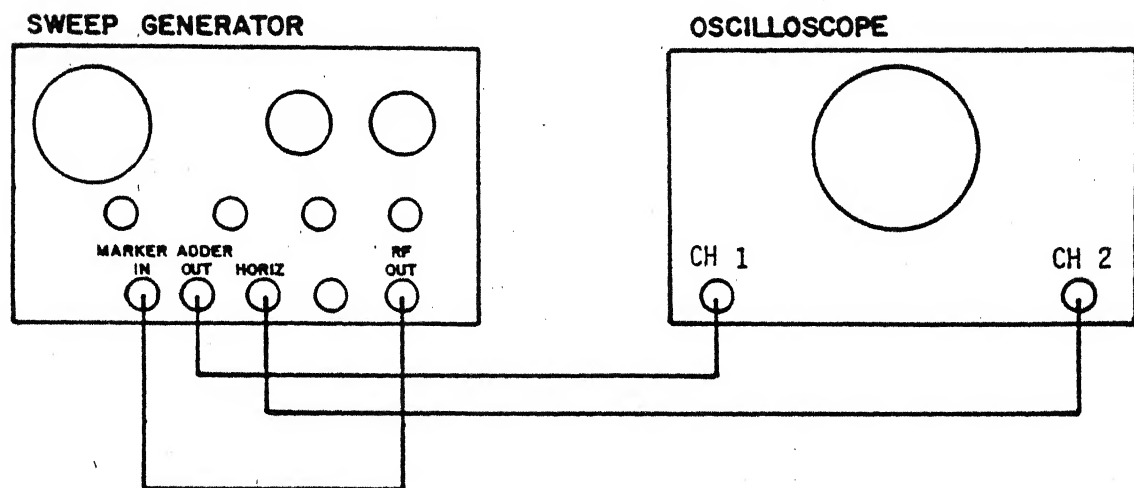

Figure 2
17. Connect the equipment as shown in Figure 2.